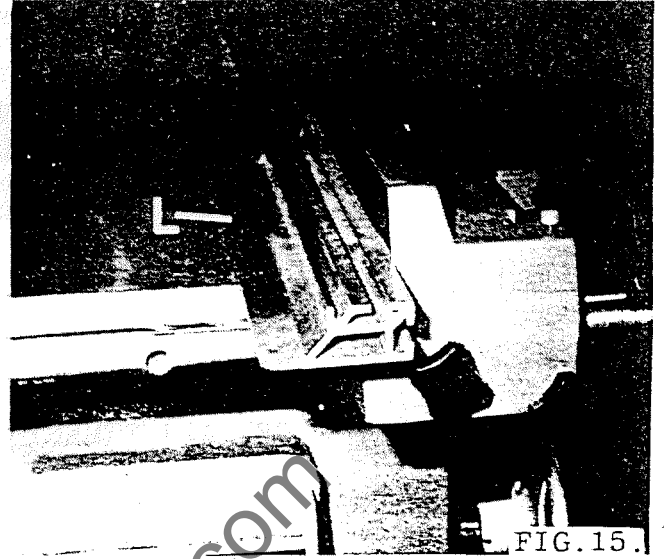
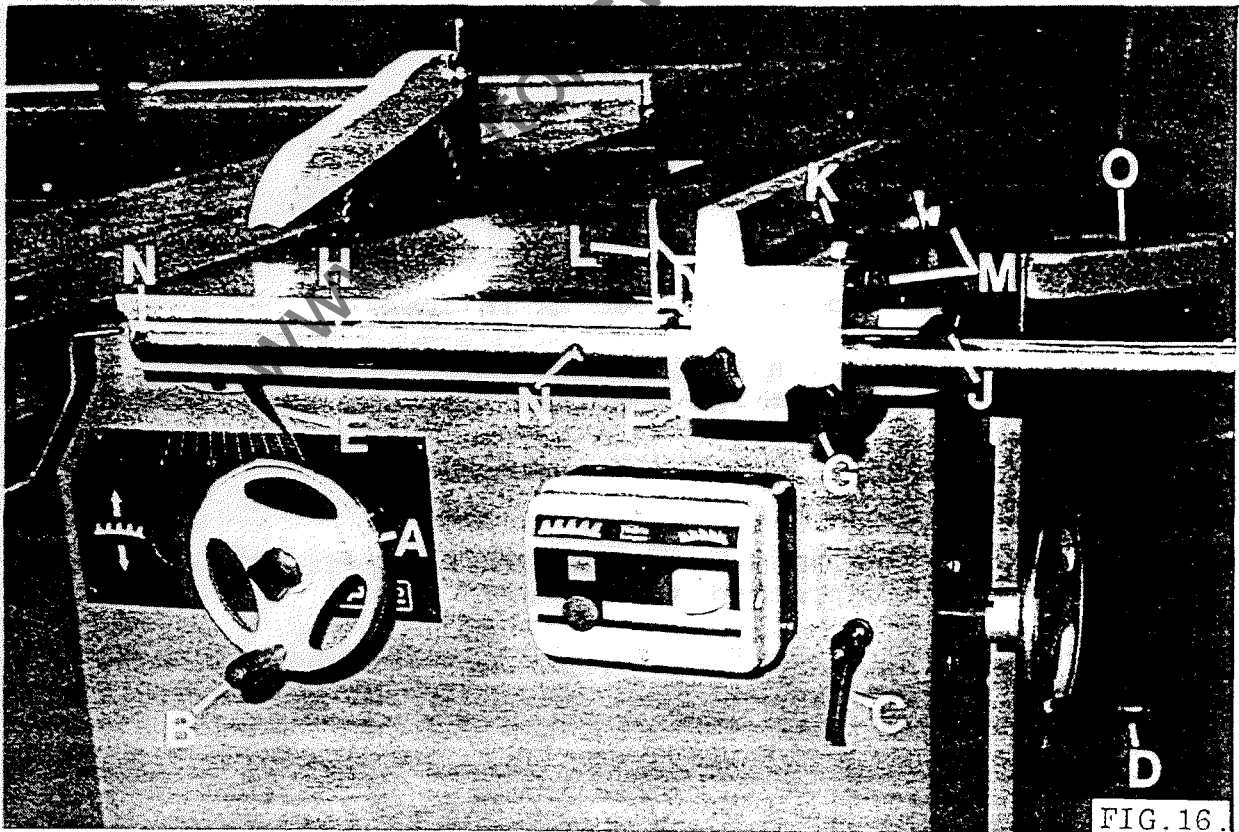

FIG. 15.
FIG. 16.
SECTION 3 To re-assemble rip fence proceed as follows and refer to FIG.16.
Release locking handle "A" in FIG.16, and raise or lower the saw arbor by the handwheel "B" to the required position then relock handle "A".
Release locking handle "C" in FIG.16, and turn handwheel "D" working in conjunction with the canting scale indicated by the pointer "E" to the required saw position. Relock handle "C".
1. Loosen handwheel "F", FIG.16, then disengage pinion from front racked fence bar by pulling handwheel "G" out of fence front bracket.
The fence plate "L" in FIG.16, has two positions. Position shown in FIG.16, is for use with deep stock. Position shown in FIG.15, is for use with faced panels, melamine, veneer, etc.
1. Loosen handwheels "M" in FIG.16, then slide fence plate "L" from fence body.
2. Slide fence plate over the two locking plates to position shown in FIG.15, then relock handwheels "M".
When the fence plate position has been changed as previously described, the pointer "J" in FIG.16, must be reset accordingly.
1. Loosen handwheel "F", FIG.16, then move fence to a position which would allow a reasonable cut to be taken. Turn handwheel "F" to lock fence in position.